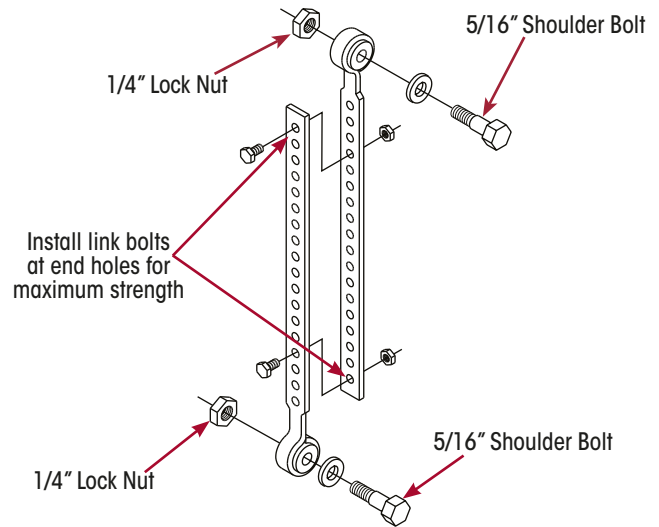

Figure 195: Assembling HCV Linkage
4. Attach the height control valve linkage. Fasten one end of the linkage to the height control valve control arm and the other end to the suspension beam. Tighten the 1/4-inch locking nut onto the 5/16-inch shoulder bolt until snug. Do not overtighten bolts. The washers and pivots must be able to rotate freely. Trim (if necessary) and bolt the two linkage halves together at the appropriate length to hold the height control valve arm in the neutral position when the suspension is at the designed ride height. Refer Figure 195: